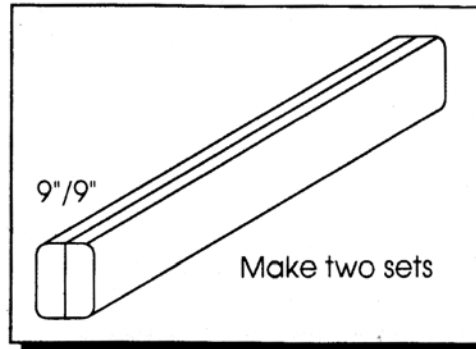

Figure 3- 2nd Floor Deco Support Beams
- Glue four 9 1/2" together in two sets for the 2nd Floor Support Beams (decorative). See Figure 3 for construction and Back View on label for positioning. Extend the ends of the assemblies approximately 3/4" past the back edge of the 2nd Floor.